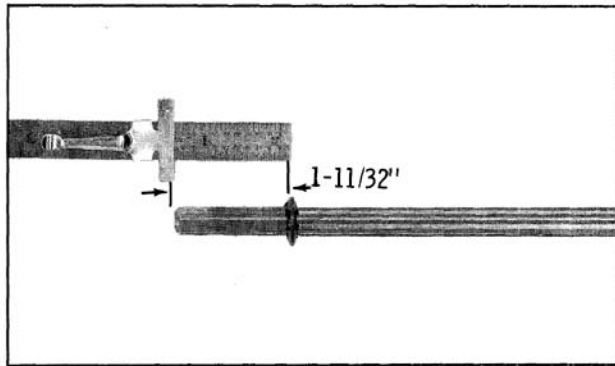

Fig. 3-74 Oil Pump Drive Shaft Extension
**NOTE:** Do not attempt to remove the washers from the drive shaft extension. The drive shaft extension and washers must be serviced as an assembly. (Fig. 3-74)